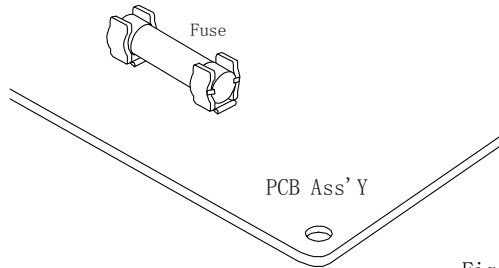

Fig. 1
- 1) Remove the PCB ASS'Y from the electrical component box. Then pull out the fuse from the PCB ASS'Y (Fig.1)